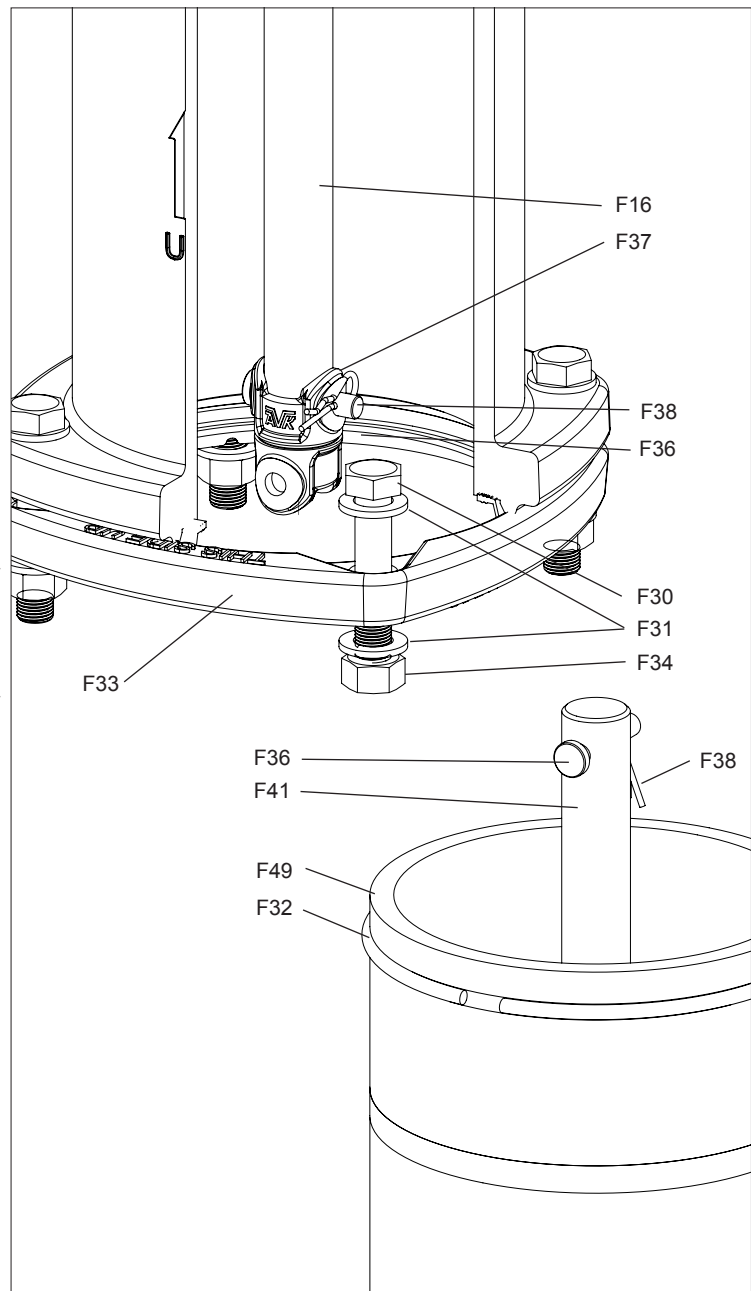

Fig. 8
1. Remove the hardware (F30,31,34) from the Breakable Flange (F33). Slide the Lock Ring (F32) off of the Lower Barrel (F49). (See Fig. 8)
WARNING: Be sure the Breakable Flange (F33) is right side up, indicated with the text “This Side Up”, facing towards the nozzle section. (See Fig. 8&9). Slide a new Lock Ring (F32) into the groove on the Lower Barrel.